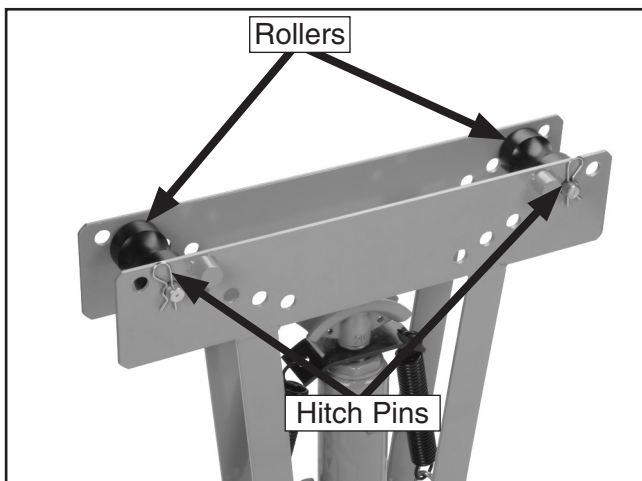

Figure 4. Hitch pin and roller shaft.
4. To move the rollers, remove the hitch pins and roller shafts (**Figure 4**), and place the rollers between corresponding holes on each side of the frame.